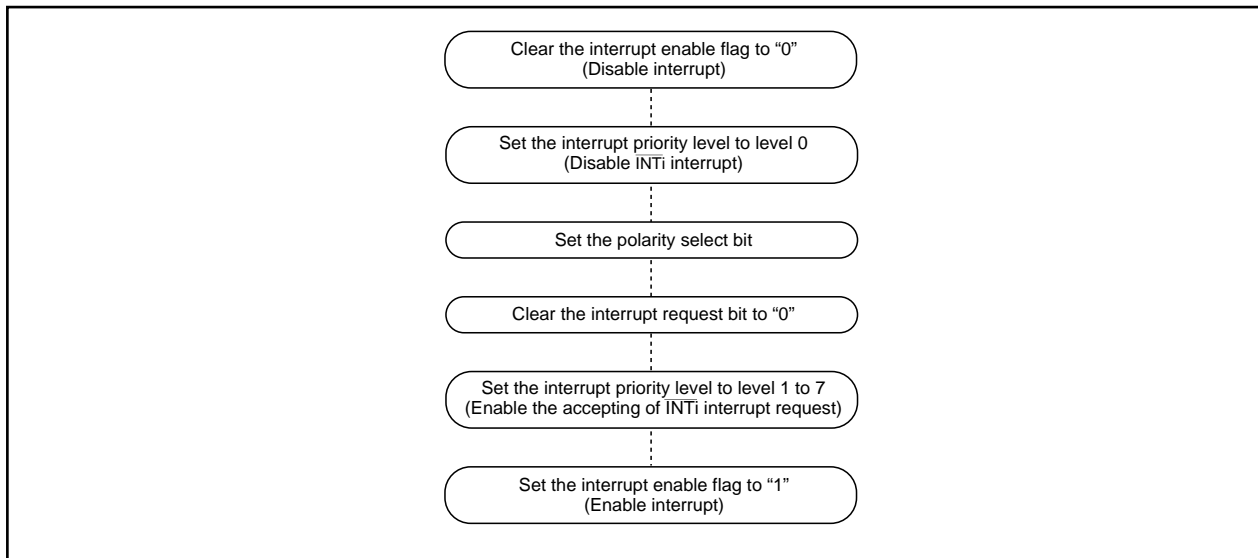

Figure 2.7.13 Switching condition of INT interrupt request
(3) The $\overline{\text{NMI}}$ interrupt
(4) External interrupt
- When the polarity of the $\overline{\text{INT0}}$ to $\overline{\text{INT5}}$ pins is changed, the interrupt request bit is sometimes set to "1". After changing the polarity, set the interrupt request bit to "0". Figure 2.7.13 shows the procedure for changing the $\overline{\text{INT}}$ interrupt generate factor.